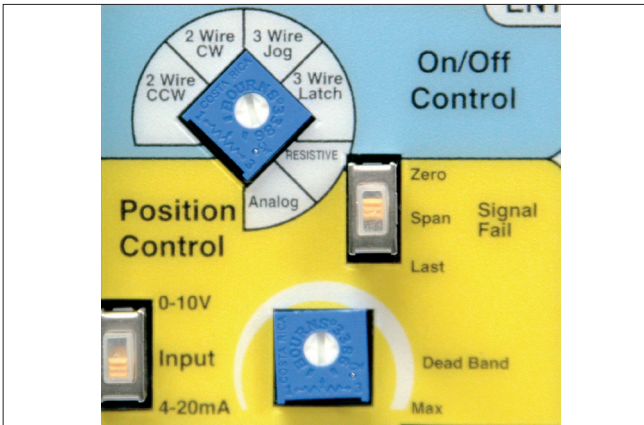

Figure 5.
The QB-series Control Board can be configured for either “Two-Wire” or “Three-Wire” On/Off control, or “4-20mA Analog”, “0-10VDC Analog”, or a “Resistive” Positioner Control. (See **Figure 5** in **Section 4.3**)
6. ON/OFF CONTROL (See Figure 5 Mode Selector)